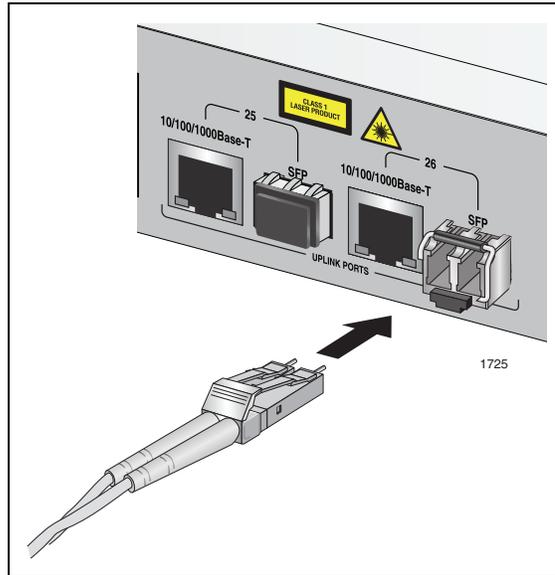

Figure 18. Connecting the Fiber Optic Cable
2. Connect the fiber optic cable to the SFP port, as shown in Figure 18.